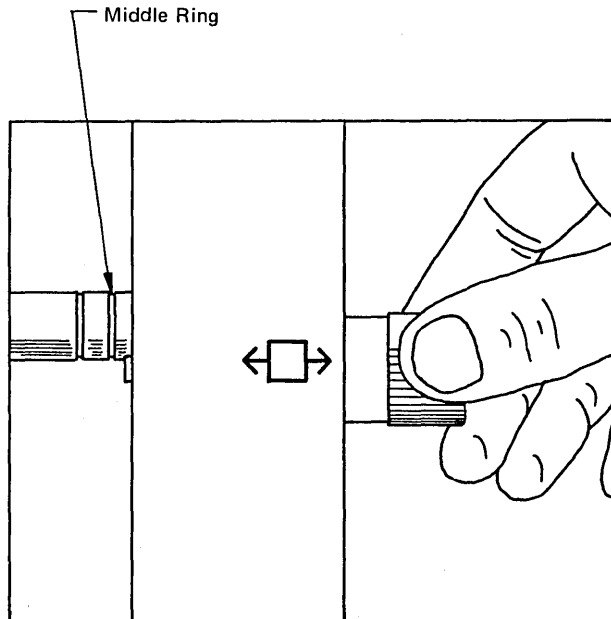

Figure 19. Fine Adjustment of Forms in Horizontal Direction
The setting of the horizontal print adjustment knob can be seen from the three rings on the adjustment shaft (Figure 19). When the middle ring is just visible to the left of the housing, the midpoint of adjustment is reached. The other two rings show the limits of left and right adjustment.
5. Slide the other tractor until its feed pins fit into the holes of the sheet, then close the tractor cover. The form should be smooth without being tightly stretched. Set the vertical print registration knob to position 0, and turn the horizontal print adjustment knob until the middle ring (see Figure 19) on the shaft is just visible to the left of the housing.